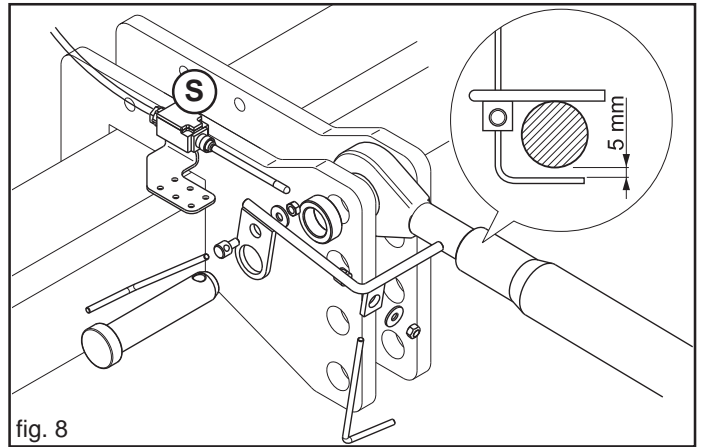

fig. 8
Place the machine on the ground in work position (Fig. 8) before installing the switch (S).